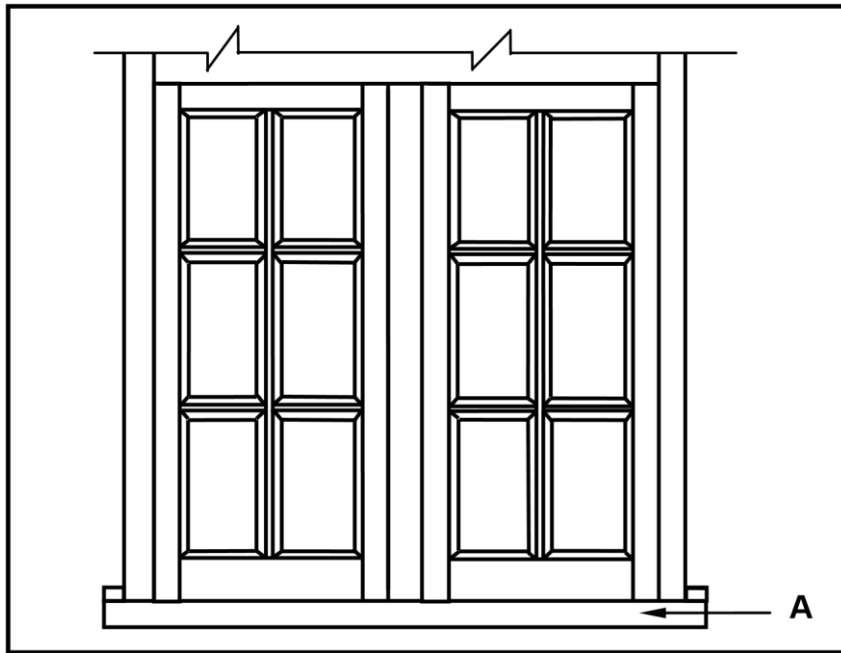

FIGURE 3.1
- 3.1 FIGURE 3.1 below shows an external elevation of an incomplete casement. The casement can be extended by placing a new part on top of the existing casement. Study the picture and answer the questions that follow.